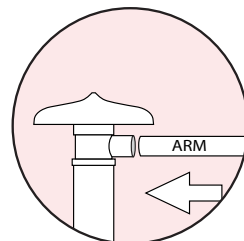
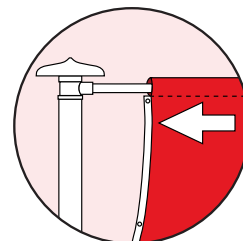

Fig 4a.
Fig 4b.
4. Push rotating arm into joint, ensure button clips into place (see fig 4a), slide top sleeve on flag over the arm. (see fig 4b)